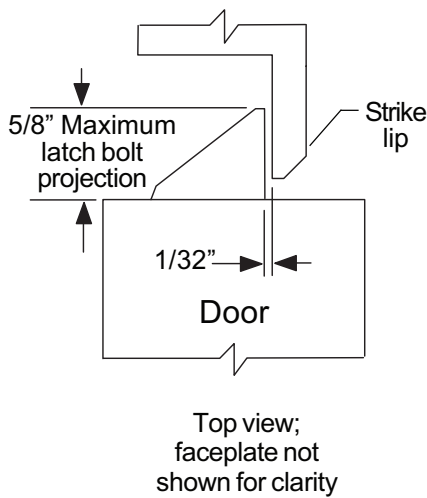

Figure 9
11. Install strike with two #12-24 mounting screws. Make sure clearance between latch bolt and strike lip is 1/32" (Figure 9). If not, remove strike, adjust (Figure 10), and reinstall.